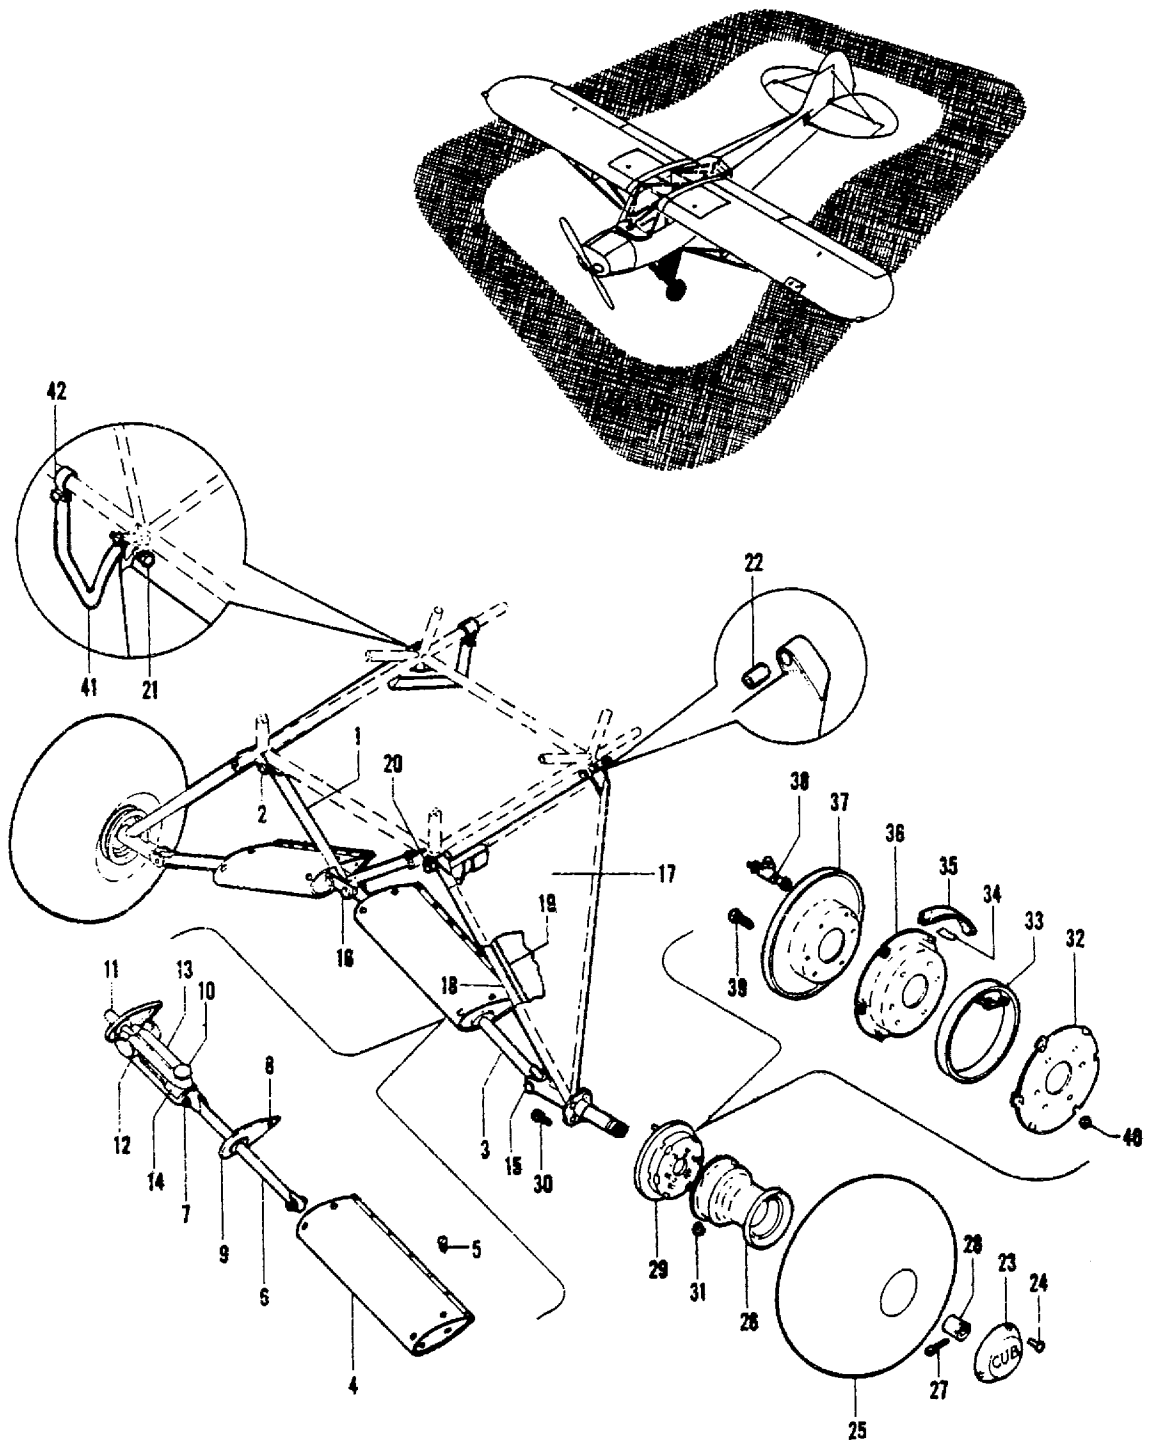

Figure 2-22. Landing Gear Installation
**2-82. DESCRIPTION.** (See figure 2-22.) The main landing gear incorporates individually sprung wheels mounting low pressure 8.00 x 4 tires. The landing gear vee is hinged at the fuselage and the axles are welded directly to the lower ends of the vee. The shock absorbing struts consist of steel tubes incorporating shock absorbing hydraulic units and rubber shock cord rings. The hydraulic brake system brakes each wheel individually for easy ground maneuvering. Heel-type brake pedals are mounted on each side of the cockpit. The rear set of brake pedals are directly connected to the master cylinders and the front pedals are connected to the rear pedals by means of wire tire rods. The right front-and-rear pedals are connected to the right master cylinder actuating the right wheel brake and the left set of pedals are connected to the master cylinder actuating the left wheel brake. Parking brake control rods are provided for handlocking the brakes. In order to set the parking brake, pull back on the parking brake control rods (42, figure 2-23).
**2-83. REMOVAL OF MAIN LANDING GEAR.** (See figure 2-22.)
Legend for Figure 2-22.
b. Disconnect the LH and RH brake line assemblies (19, figure 2-22) at the fuselage.
c. Remove bolt, washer, and nut (2, figure 2-22), bolt (20), bolt, washer, nut and cotter pin (21), and bushing (22). Roll the main landing gear away from the airplane for further dismantling work.
d. Remove bolts, nuts, cotter pins, and washers (15 and 16) and separate shock struts (3 and 14) from the covered landing gear vee (17). Disassemble the shock strut assemblies according to figure 2-22.
**2-84. CLEANING OF MAIN LANDING GEAR.** (See figure 2-22.)
b. Wipe shock cord rings (13, figure 2-22) with a clean cloth. Oil or grease should be removed with a soap and water solution. Rinse with clear water and wipe dry. Similarly, clean the LH and RH brake line assemblies (19).
**2-85. INSPECTION OF MAIN LANDING GEAR.** (See figure 2-22.)
c. Examine shock cord rings (13, figure 2-22) for cuts and deterioration. Replace any cut or deteriorated shock cord rings.
d. Check the shock struts (14) for evidences of leakage. Replace faulty shock struts.
e. Inspect the LH and RH brake line assemblies (19)
**2-86. MINOR REPAIR OF MAIN LANDING GEAR.** (See figure 2-22.) There are no repairs for metal parts outside of forestalling corrosion and realigning minor dents or bends. All severely damaged or buckled metal parts must be replaced.
**2-88. INSTALLATION OF MAIN LANDING GEAR.** (See figure 2-22.)
a. Reassemble shock struts according to figure 2-22.
b. With the fuselage resting on the padded horse as described in step a of paragraph 2-83, attach covered landing gear vee assemblies (17, figure 2-22) (with the wheels assembled) to the fuselage. Position all bolts with their heads forward. Fasten cabin mounting step (41) with bolt, washer, nut, and cotter pin (21) on the RH side of the fuselage. See Table III for torque values to be applied to bolt (20) and bolt, washer, nut, and cotter pin assembly (21).
c. Carefully assemble shock struts to landing gear cabane vee (1) and to the LH and RH axles. Position all bolts with their heads forward. See Table III for torque values to be applied to bolts (2, 15, and 16). Lock all bolts with cotter pins.
d. Reconnect the LH and RH brake line assemblies (19) to the fuselage end.
Oil or grease on brake shoes or drum.	Disassemble wheel brake (29, figure 2-22) remove grease or oil and reassemble.
Brake shoes frozen to retainers due to freezing temperatures after water leakage into wheel brake.	Remove wheel and free brake (35, figure 2-22) shoes from retainers.
Foreign material imbedded in brake shoes or drum.	Disassemble wheel brake (29, figure 2-22) extract foreign material and remove all burrs or high spots from brake blocks (35) or drum (36) with sandpaper.
#### 2-90. REMOVAL OF MAIN WHEEL AND BRAKE ASSEMBLIES. (See figure 2-22.)
- a. Remove hub cap (23, figure 2-22). Extract cotter pin (27) and remove axle nut (28). Separate the main wheel (26) from the axle.
- b. The tire and tube assembly (25) may be removed from wheel (26) by first deflating the tire.
Before removing the brake assembly, disconnect the hydraulic line running to the expander tube inlet (33, figure 2-22) and plug the line connector (38) with tape to prevent any loss of fluid.
- c. Separate brake (29) from the axle by removing bolts (30) and nut (31).
- d. To disassemble the brake (29), remove bolt (39) and nut (40), extract clip (34) and separate the dust cap (37) from plate (36). Lift plate (32) off the assembly and carefully remove brake shoe (35).
- e. Disassemble connector (38) from expander tube (33) inlet. Remove nut on expander tube inlet and separate expander tube (33) from plate (36). Similarly disassemble other wheel and brake assembly.
#### 2-91. CLEANING OF MAIN WHEEL AND BRAKE ASSEMBLIES. (See figure 2-22.)
- c. Clean expander tube (33, figure 2-22) with a clean, dry cloth. Remove oil or grease by washing with a soap and water solution. Rinse with clean water and dry thoroughly with a clean cloth. Follow the same procedure to clean the tires.